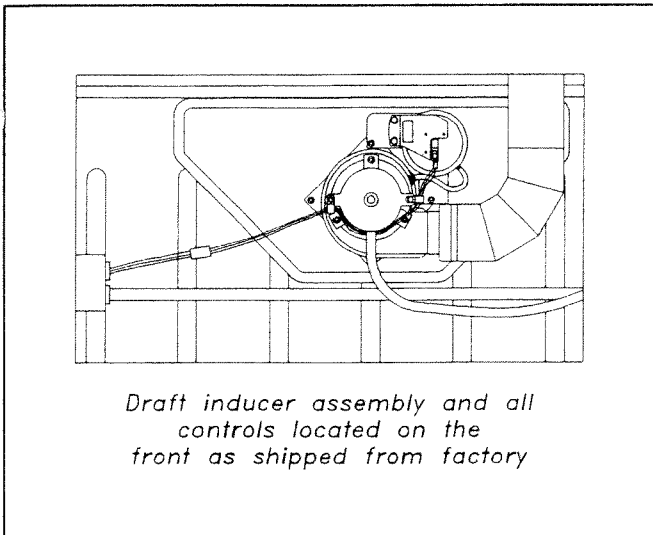

Figure 22. Inducer Assembly Front Position.
2. Place draft inducer on four mounting studs with vent outlet on the right. See Figure 22. Attach draft inducer to draft inducer collector box. Use four #8-32 hex nuts from hardware package. Tighten to torque of 60 inch-pounds.
1. Install pressure switch on mounting studs at top and right side of draft inducer. Use #8-32 hex nuts from hardware package. See Figure 22 for correct location.
3. Connect pressure tubing draft inducer pressure fitting as shown in Figure 22. Be sure tubing is open and has no kinks or splits.